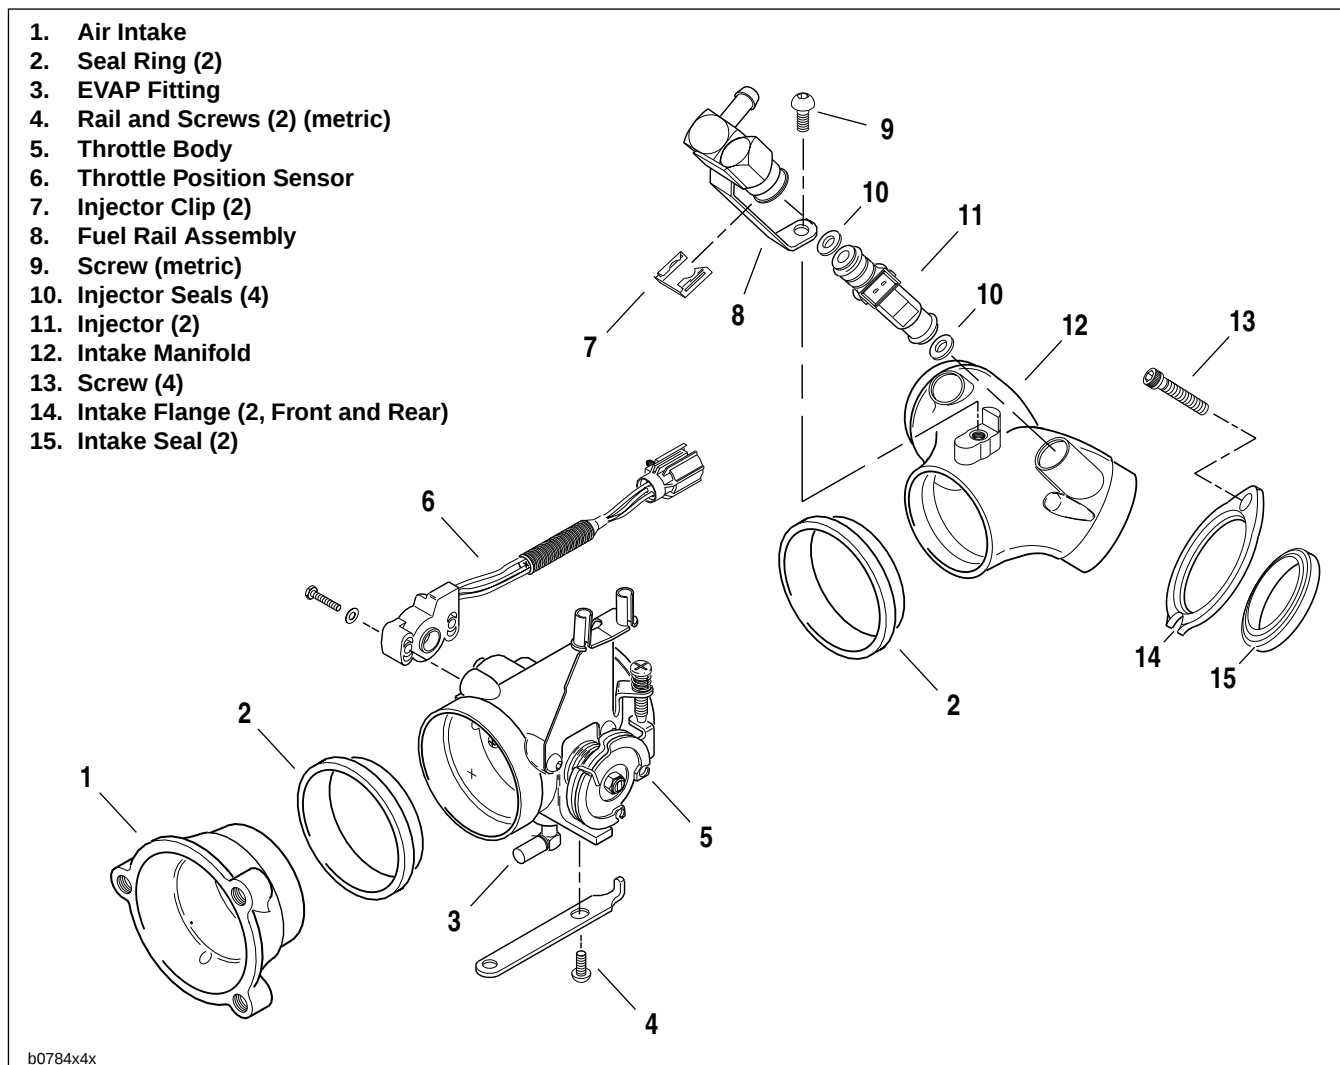
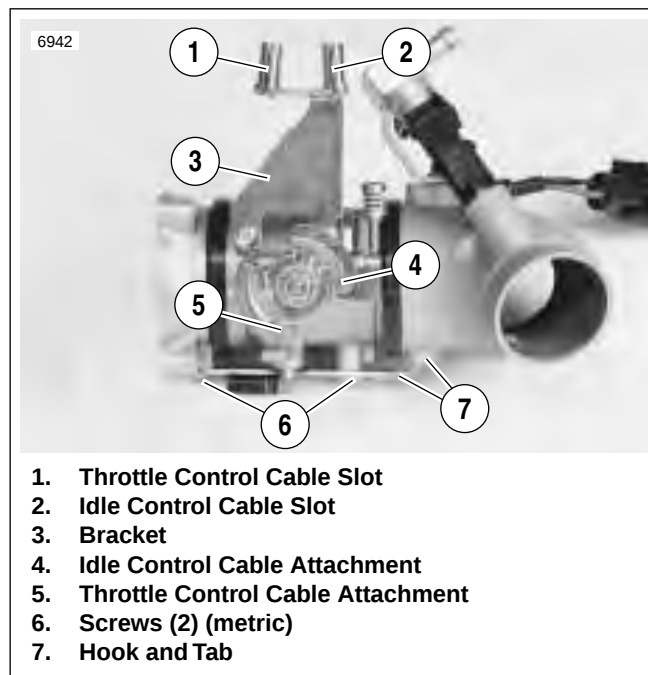

Figure 4-94. Throttle Body and Intake Manifold
Figure 4-95. Throttle Cable Bracket
See Figure 4-94. The throttle body and intake manifold consist of the following components:
3. See Figure 4-94. On California models, pull EVAP hose from fitting (3).
- b. See Figure 4-95. Increase throttle cable freeplay. Through the slots (1, 2) in the side of the bracket (3), remove both throttle cables.
6. If only removing front portion of throttle body, remove two screws (6) (metric). Detach hook on rail from tab on manifold (7) and slide front portion out.
7. See Figure 4-94. Remove assembly from motorcycle.
- a. On primary cover side, loosen but do not remove the two front and rear intake flange screws (13). For best results use a 1/4 inch ball Allen bit with an end driver at least 4 inches long.
8. Remove intake flanges (14) from intake manifold. Remove and discard seals (15).